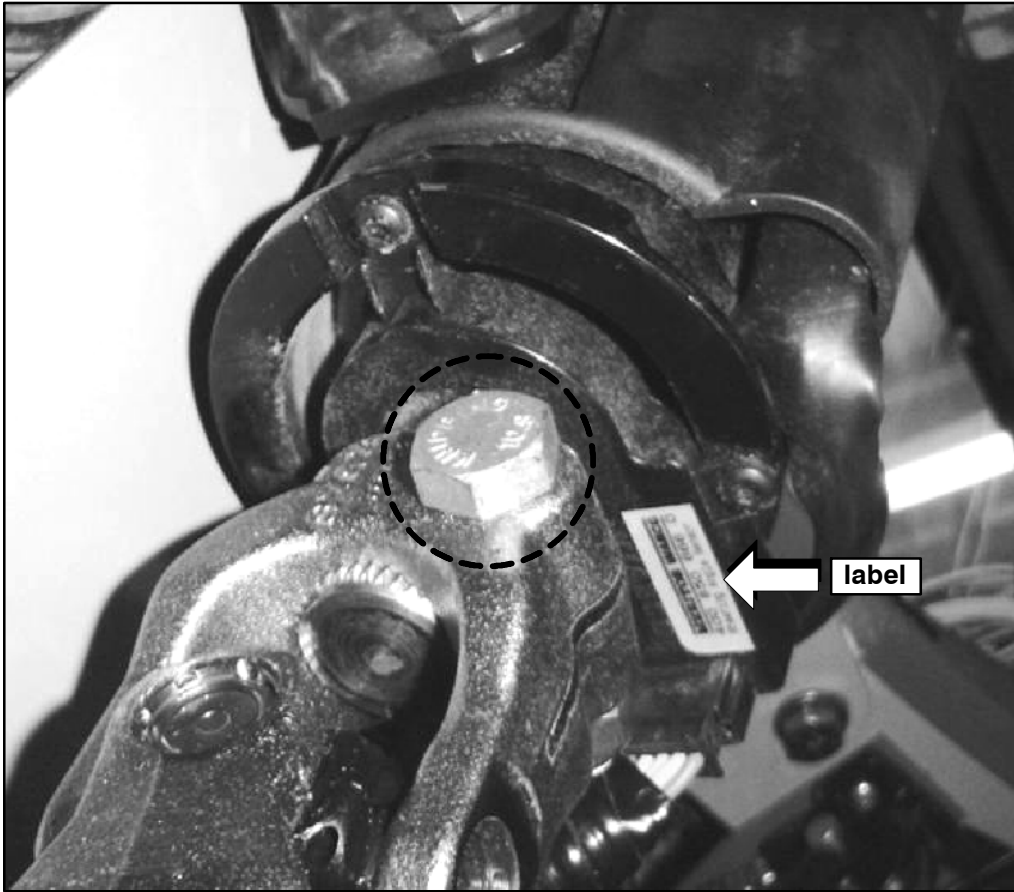

Figure 2.
4. Locate the steering angle sensor serial number label ( refer to Figure 2 ).
7. Locate and remove the clamp bolt and nut that secure the upper universal joint yoke to the steering column shaft ( refer to Figure 2 ).